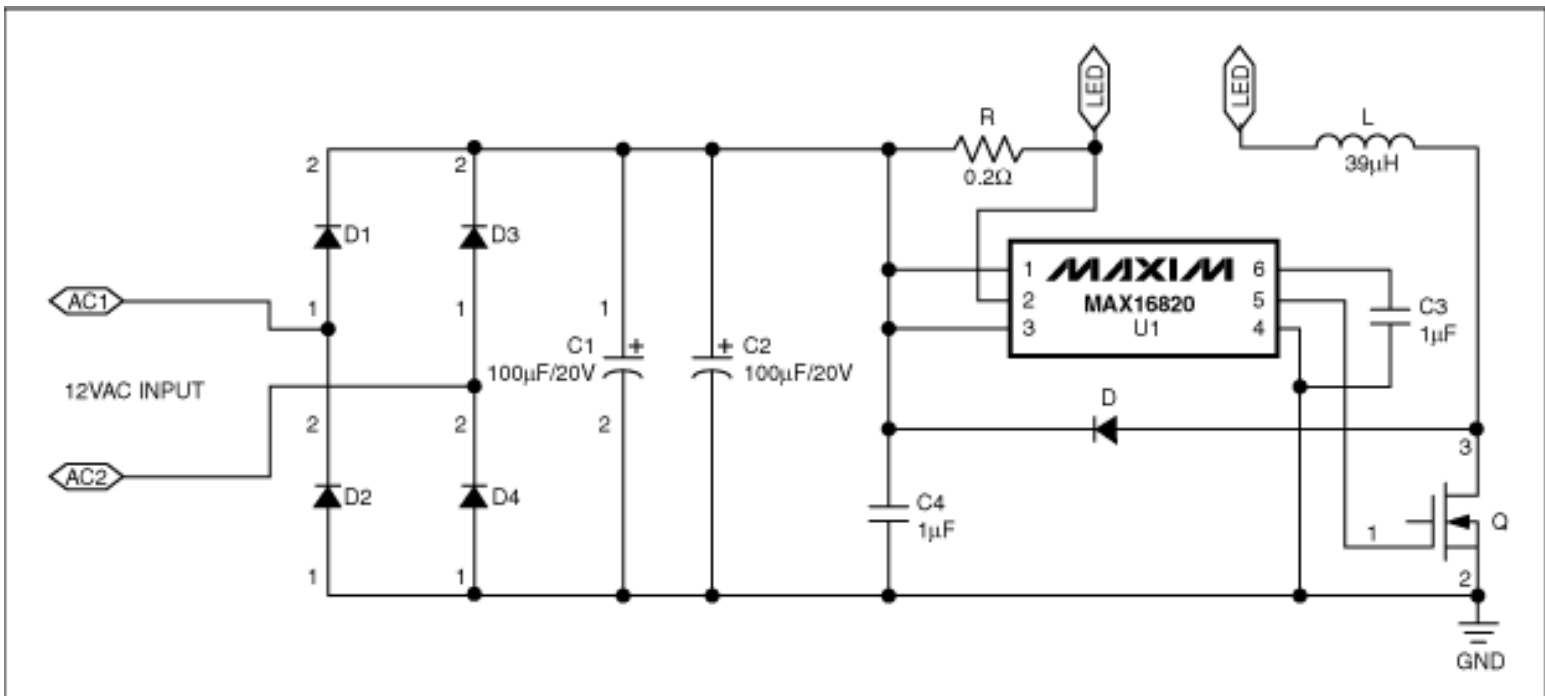

Figure 1. The 5W MR16 LED lamp circuit is shown using the MAX16820 LED driver. The LEDs shown are the LedEngin 5W WLEDs.
For the MR16 LED reference design shown in **Figure 1**, Maxim selected the LedEngin 5W white LEDs (WLEDs) to demonstrate the 1000mA drive capabilities of the MAX16820. **Tables 1** and **2** detail the parts list and electrical specifications of the MR16 reference design, which has a 12VAC $\pm 10\%$ input voltage typical of most MR16 applications.
Figure 1 shows a 5W MR16 LED lamp driver composed of a rectifier bridge (D1–D4), 100µF filter capacitors (C1 and C2), and a buck converter circuit. The buck LED converter is composed of the MAX16820, buck inductor (L), power MOSFET (Q), freewheeling diode (D), and sense resistor (R).
To keep the accuracy of the output current high enough, the inductor current's maximum $\Delta I/\Delta T$ should be limited to less than 0.4A/µs. As shown in Figure 1, the maximum voltage drop on the inductor is V_{LMAX} . The following equations can be used to calculate the value of the inductor L: